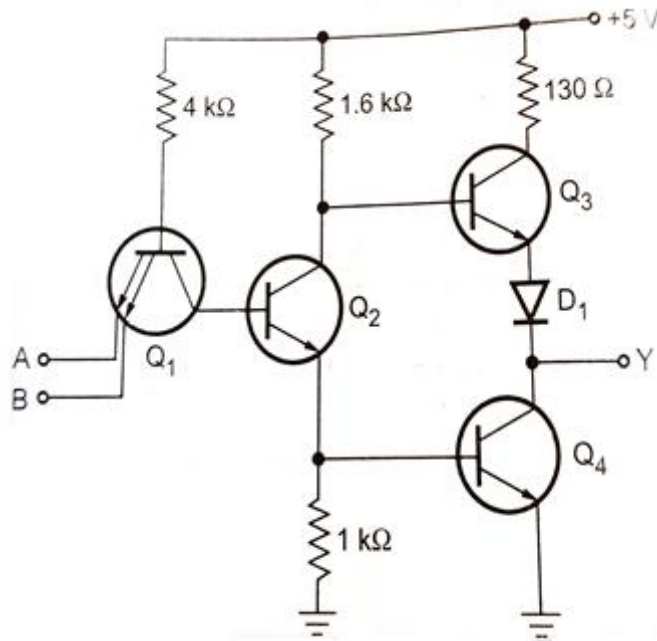

Figure 1.10:2-input TTL NAND gate
- The figure 1.10 Shows the circuit diagram of 2-input NAND gate.